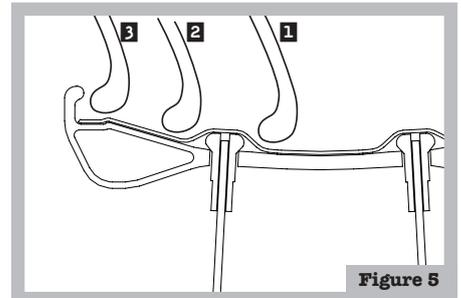
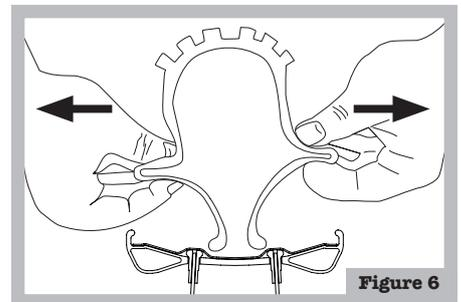

Figure 5
Figure 6
- Install the tire onto the rim. Work the tire onto the rim by placing the tire bead in the center of the rim (POS 1, Figure 5) and working your way around the tire. If the tire becomes tight towards the end, inspect the bead and ensure that it is sitting in the middle of the rim (POS 1, Figure 5). **Note:** If done correctly, you should NOT need a tire lever to install the tire. Install the other bead of the tire with the same method, ensuring that the bead is sitting in the middle of the rim as you work your way around the tire.
- Prepare the tire for inflation. Work your way around the wheel, pulling on the sidewalls of your tire, to move the tire bead to the outer edges of the rim (Figure 6). Make sure that both tire beads are located on the outer edges of the spoke nipples (POS 2, Figure 5) around the entire rim before inflation.
- Seat the tire to the rim bead. Using an air compressor or high volume pump, apply air through the valve until the tire has seated (POS 3, Figure 5) all the way around the rim on both sides. The greater the velocity and volume of the air, the easier it will be to get your tire to seat.
- Spray bead with soap and water to help tire slide into Position 3 (Figure 5)